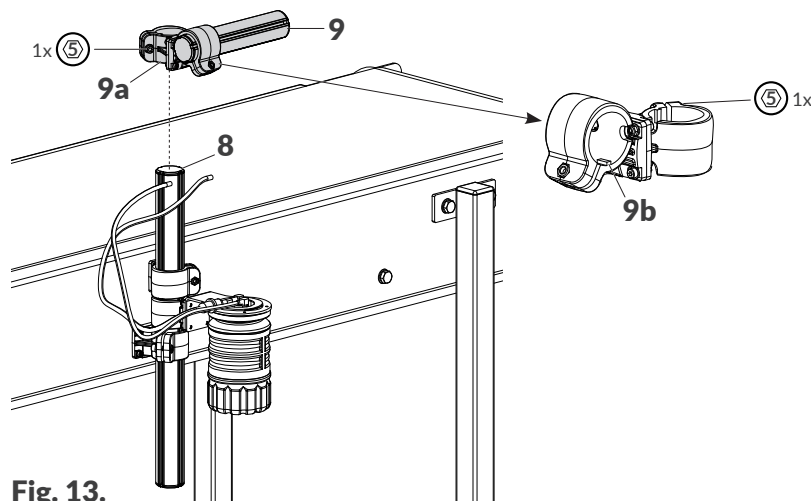

Fig. 13.
5. Fasten printer beam **9** and articulated holder **9a** to support beam **8** (see Fig. 13). Use #5 angle hex key to tighten the appropriate screw that is part of holder **9a**, clamping the holder to support beam **8**.
While installing the printer make sure that holder fins **9b** (see Fig. 13) are properly put into the vertical grooves on the beams.